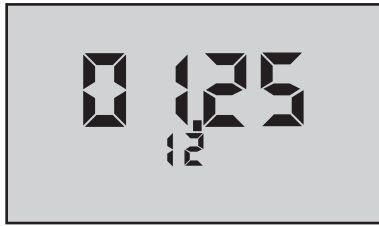

Figure 9
Example shown in Figure 9 is in US format, i.e., mo/dy/yr.
2. Press  repeatedly until the date is displayed (scrolling through stored readings, “PC OFF”, “CLR ALL” and time to the date, e.g., “01.25.12” (Figure 9), January 25, 2012).